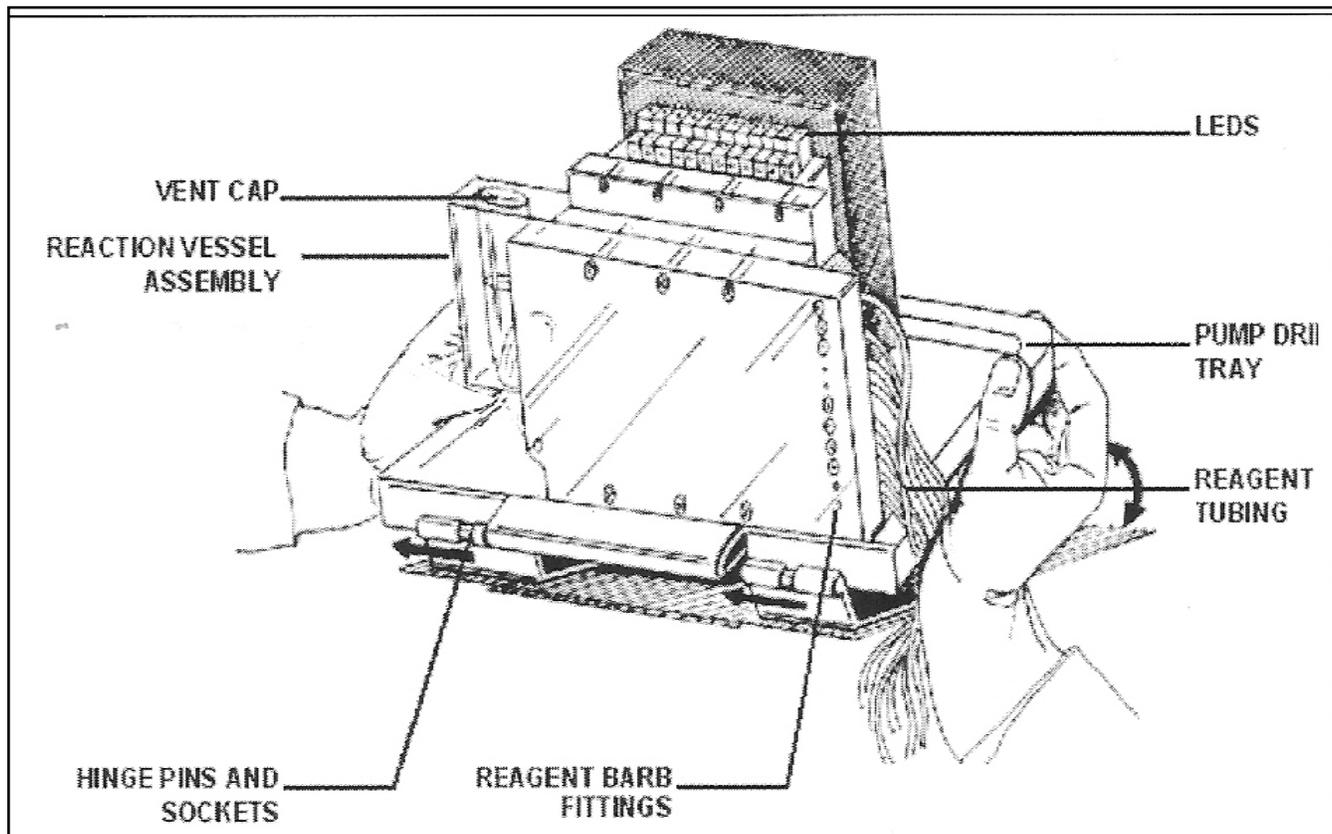

Figure 6-1. Remove Valve Pump Assembly
2. Pull back of pump assembly towards you to a 45-degree angle (see Figure 6-1).